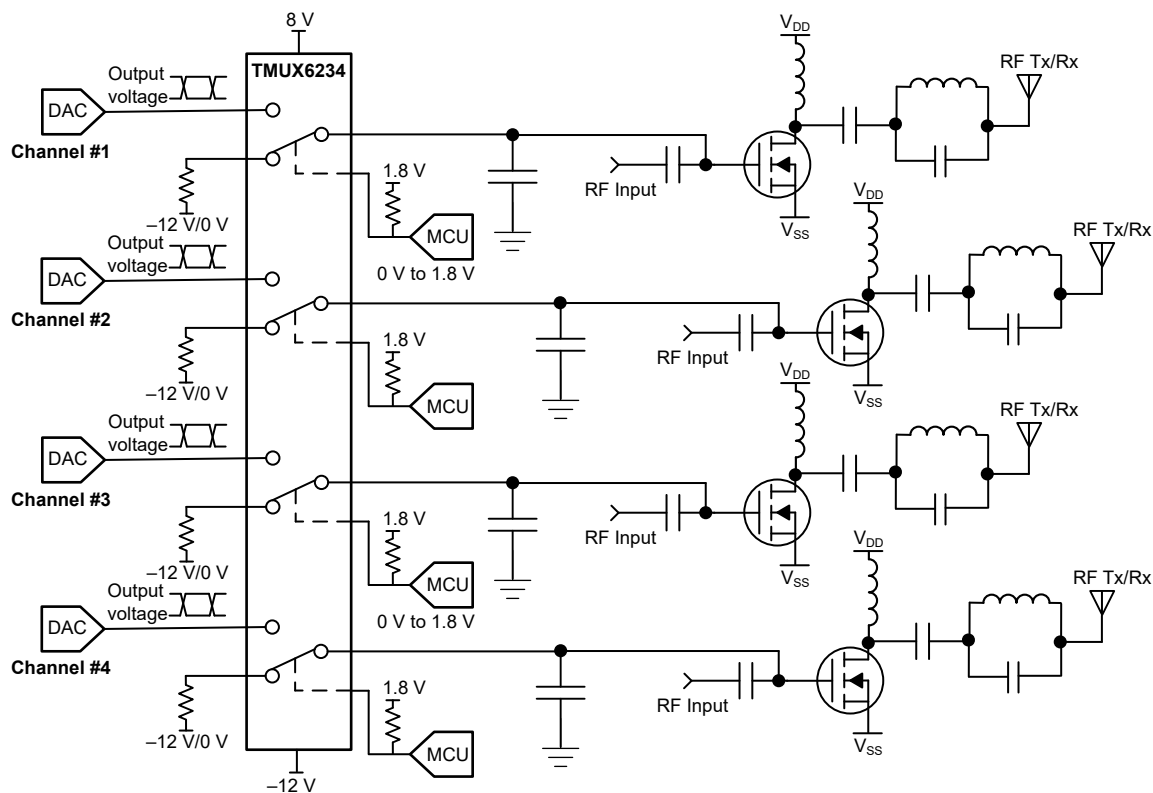

Figure 9-1. Power Amplifier Gate Driver
Figure 9-1 shows the TMUX6234 configured for control of a multi-channel power amplifier application.
The application shown in Figure 9-1 demonstrates how to toggle between the DAC output and a low signal voltage for control of a power amplifier. A device such as the TMUX6234 that supports multiple supply voltage combinations allows the system designer to use a single switch across platforms with different power amplifier topologies such as GaN or LDMOS implementations. Using a multi-channel switch like the TMUX6234 allows the system to improve density by implementing a smaller solution size. Multiple channels of the TMUX6234 can be utilized to switch additional stages of a single power amplifier channel. Or multiple channel switches can be used on different power amplifier stages in high channel count communications equipment such as a 32 transmit (TX), 32 receive (RX) active antenna system mMIMO (AAS). Each channel of the TMUX6234 has independent control signals allowing for overall system flexibility. The DAC output is utilized to bias the gate of the power amplifier and can be disconnected from the circuit using the select pins of the switch or the global enable pin. The TMUX6234 can support 1.8 V logic signals on the control input, allowing the device to interface with low logic controls of an FPGA or MCU. All inputs to the switch must fall within the recommended operating conditions of the TMUX6234 including signal range and continuous current. For this design with a positive supply of 8 V on V_{DD} , and negative supply of -12 V on V_{SS} , the signal range can be 8 V to -12 V. The maximum continuous current (I_{DC}) is captured in the *Recommended Operating Conditions* table for a range of supply voltage cases.